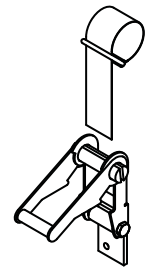

Figure 53
1) Figure 53 & 54. 2"-4" from front of tarp cut slit in tarp and wrap strap around the roll pipe.
2) Figure 53. Pull down on the strap, place the ratchet so the end of the strap can clearly go through the slot in the ratchet and mark the location.